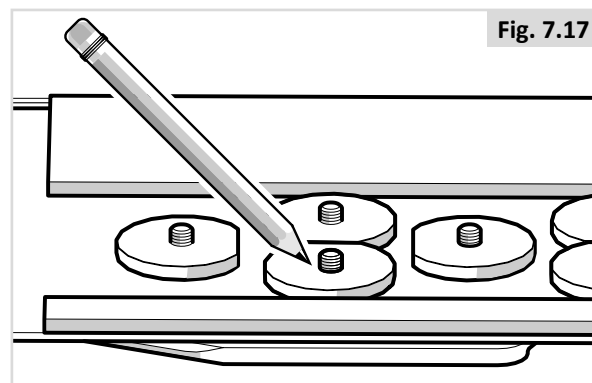

Fig. 7.17
- Mark excess screw length (Fig. 7.17)